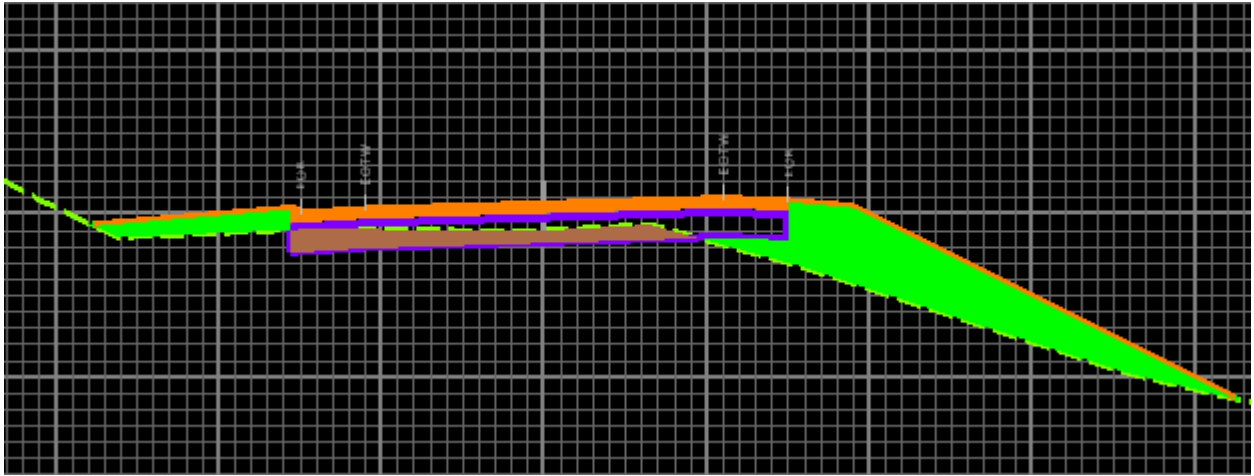

Figure 9-6 MicroStation Screen Shot of InRoads Generated Cut and Fill
- E. View the cross sections that have been created. The green shaded area represents fill, and the brown area represents the cut sections. Figure 9-6 shows the cross section with cut and fill sections.